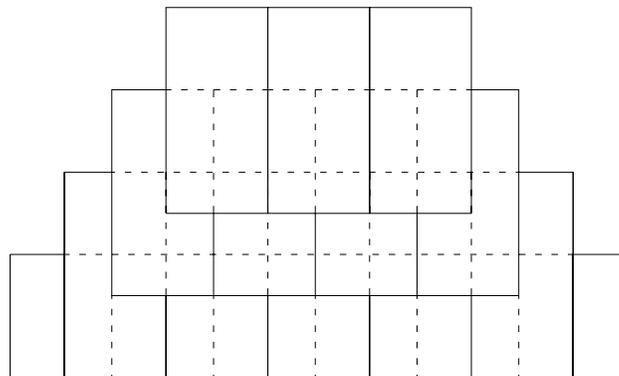

FIGURE 14. LAYOUT OF ENGLISH SHINGLES – TOP VIEW
14. Shingles can be laid from either direction. Installers should work from the side installing about 8 shingles per row working from the eave to the ridge being careful not to walk or rest scaffold brackets directly on the shingles. (Figure 14) Roof pads are available for areas where roof access is required after shingles are installed or to support roof brackets.